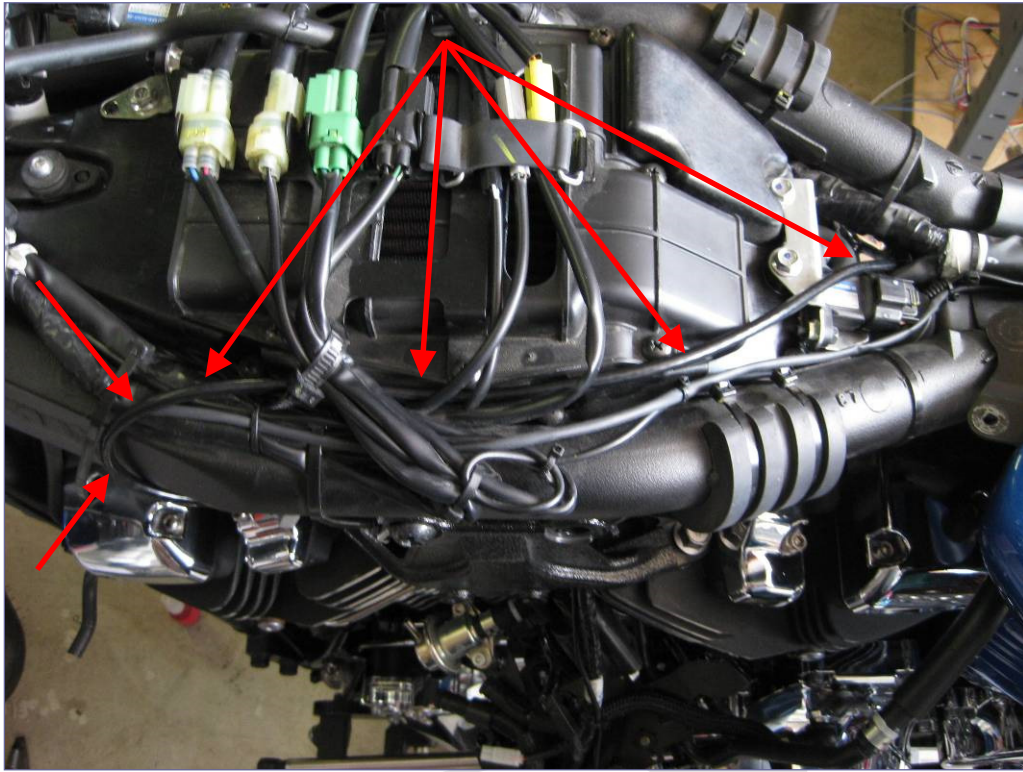

Fig.24
- Continue routing the throttle cable and longer wire harness towards the middle **under the frame** and the seat up to the tank and then follow the left side frame rail alongside the air box, on the inside of the frame rail.(Fig.24)